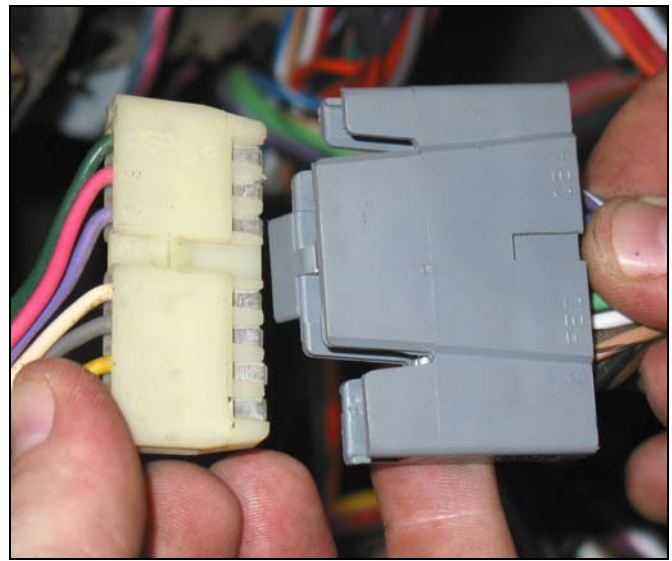

Figure 7.4.2 *Wiper Switch Connection*
- 7.4.2** The WIPER SWITCH wires come pre-terminated with a connector installed. Slide the connector onto the WIPER SWITCH pigtail. (see **Figure 7.4.2**) This will be the wires coming from the column with the white connector.